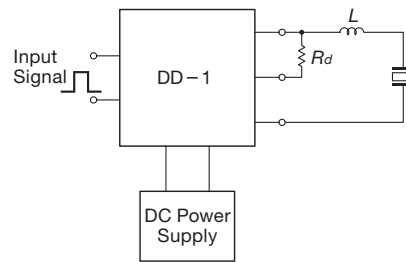

Fig. 6 Schematic of DD-1 connection
2) In case of digital drive circuits; refer to Fig. 6 & 7
The optimum R_d value on Fig. 6 and 7 can be obtained by actual experiment basis, and in fact, it is expected to be between a few [Ω] to 200[Ω]. It is also important to select the resistance with enough wattage because the driving energy on the circuit is almost consumed by both the coil resistance and R_d .